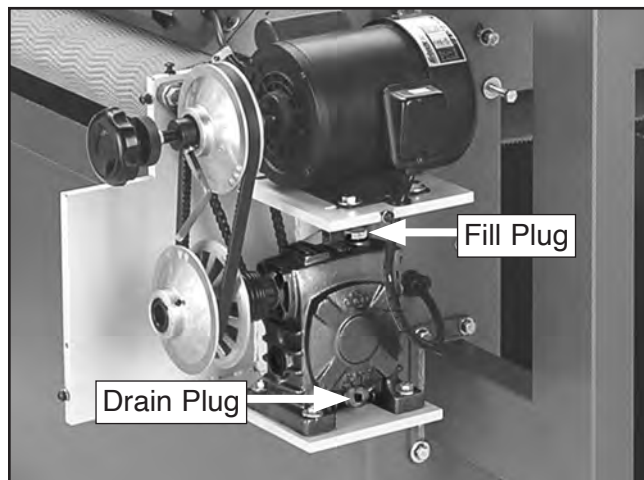

Figure 49. Location of fill and drain plugs.
5. Slide the speed reducer to edge of mounting plate, then remove fill and drain plugs (see **Figure 49**) to drain oil.